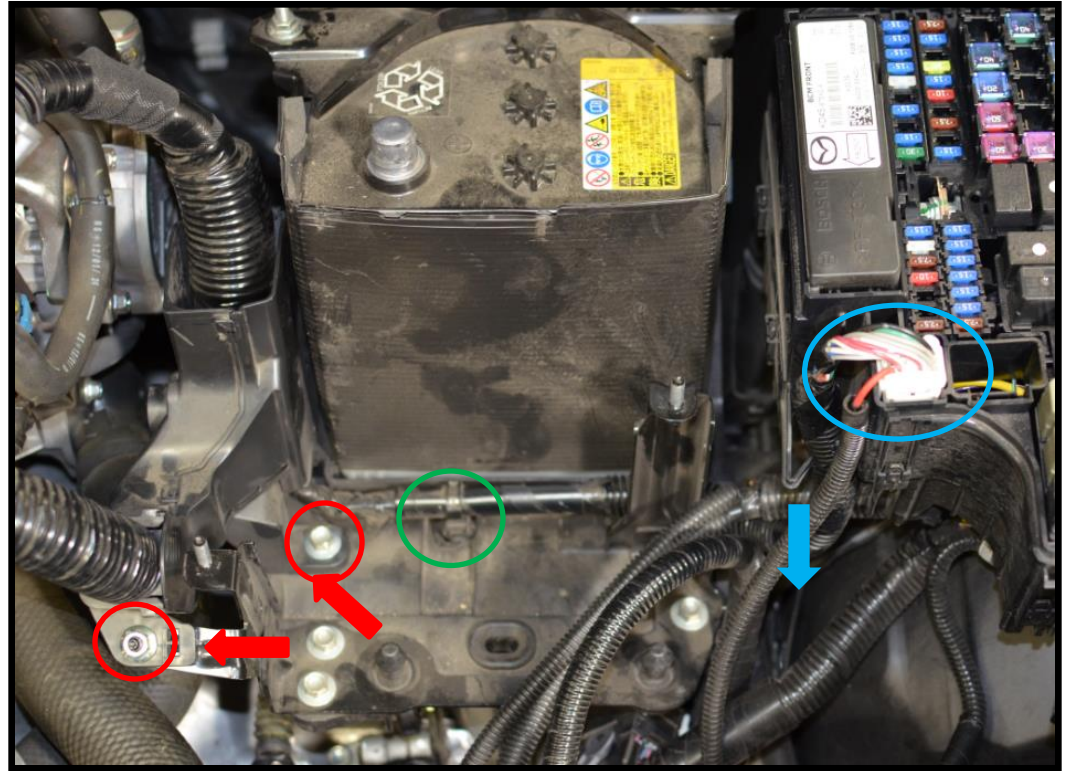

Figure 2d
g) Remove the electrical connector circled in blue in Figure 2d then pull the wire out from behind the plastic hook in the direction of the blue arrow.
h) Remove the two 10mm flange bolts holding the wiring harness assembly. Shown with the red circles in Figure 2d.
i) Use a flathead screwdriver to pop the wiring harness loose. Red arrows in Figure 2d.
j) Pop loose the wiring harness clip using needle nose pliers. Use the pliers from under the battery tray to squeeze the tabs on the clip together then pull the clip and wire up. Circled in green in Figure 2d.